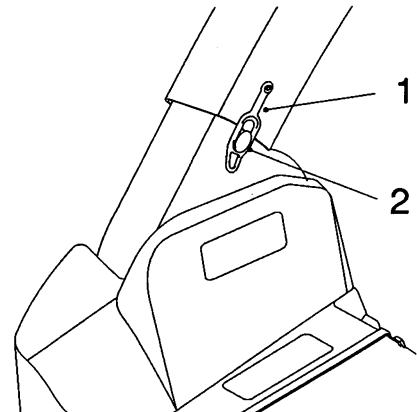

Figure 11
2. Hook the rubber latch on the discharge tube onto the blower knob (Fig. 11).